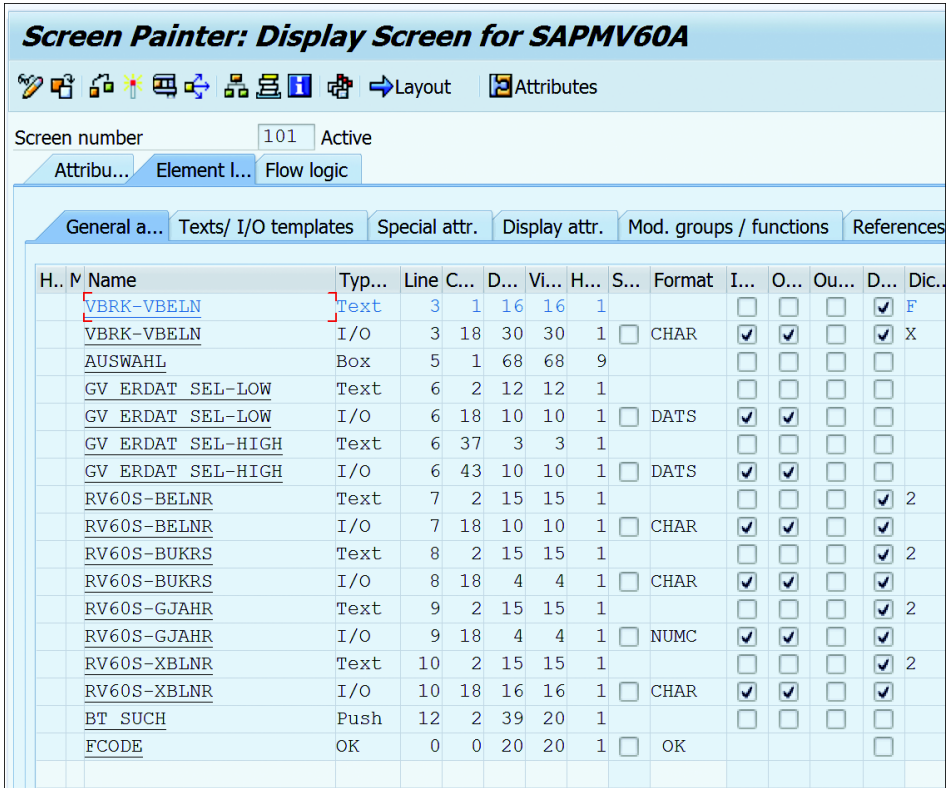

Figure 12.11 Element List Tab
5. In the **ELEMENT LIST** tab, all the screen elements that can be maintained will be listed. Figure 12.11 shows the **ELEMENT LIST** tab with all the screen elements belonging to the screen listed. The screen element details are automatically populated in the **ELEMENT LIST** tab when we create the screen elements using the layout editor. We'll discuss this tab further when we create screen elements in the next section.